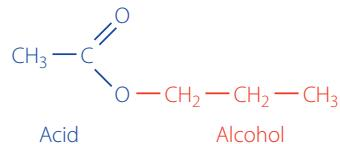

FIGURE 12.4 The name of an ester comes from the two alkyl groups on either side of the ester group.
The names of esters are two words based on the structure seen in Figure 12.4.
- 1 The first part of the name is the alkyl group directly attached to the oxygen of the ester group (right side of Figure 12.4). Originally, this part of the ester was the alcohol molecule it formed from. It is given the name in alkyl form; for example, one carbon is methyl, four carbons is butyl, six carbons is hexyl. In Figure 12.4, there are three carbons in this part of the molecule, so it is propyl.
- 2 The second part of the name comes from the carboxylic acid used in the ester formation. In Figure 12.4, this is the hydrocarbon component on the left side of the molecule. Be sure to include the carbon that is part of the ester group in this part of the name. The end of the acid name is changed from –oic acid to –oate. Figure 12.4 shows two carbons in this part of the molecule, so it is ethanoate (from ethanoic acid.)